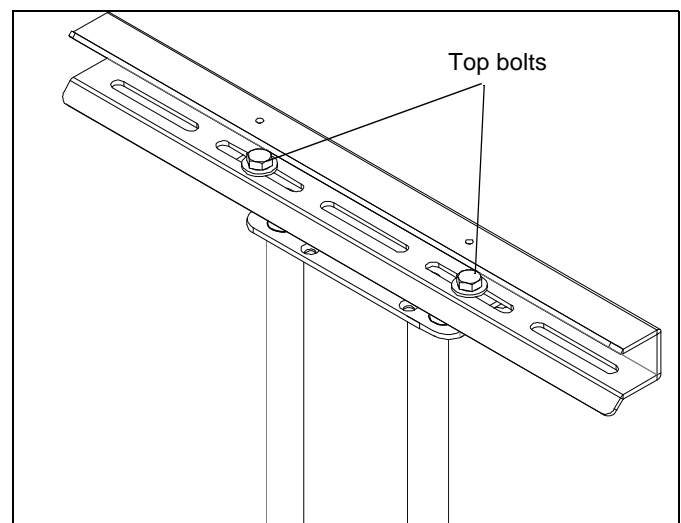

Figure 11
2. Loosen four bolts (two on the top and two on the bottom) securing the swing arm assembly to top and bottom mounting brackets (See Figure 11).